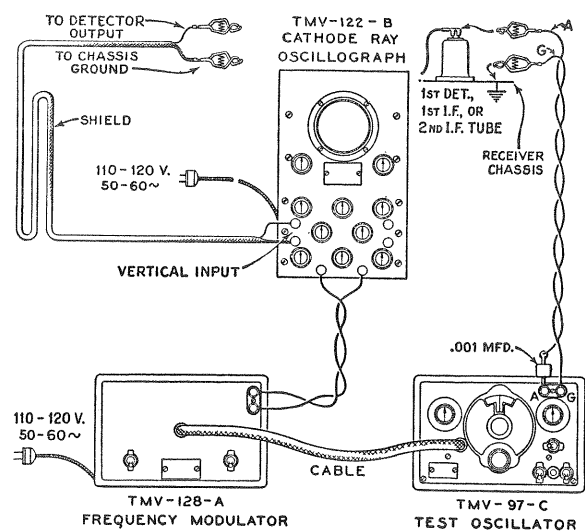

Figure 4—Alignment Apparatus Connections
to feed the output of the Full-Range Oscillator to the stages in their order of alignment, adjusting the trimmers of each transformer and observing the effect at the second detector output on the Cathode-Ray Oscillograph. The proper point of connection of the Oscillograph is with its vertical "high" input terminal attached to the junction of R-7, R8 and R9 as illustrated in Figure 5, and with the "0" or ground terminal to the chassis. The "Ext. Sync." terminals of the Oscillograph should be connected to the Frequency Modulator as shown by Figure 4. A .001 mfd. capacitor installed in series with the Oscillator "Ant." lead will prevent the voltages of the stage under alignment from becoming upset. The vertical "A" amplifier should be "On" for the ensuing adjustments and the gain control kept at its maximum position. For each adjustment, the Oscillator output need be regulated so that the image obtained on the Oscillograph screen will be of sufficient size as to be accurately observable. Proceed further as follows:
- Attach the output of the test Oscillator between the control grid cap of the RCA-6K7 i-f tube and chassis ground as shown typically by Figure 4. Tune the Oscillator to 460 kc. and set its modulation switch to "On". Regulate its output until the signal produces a wave pattern on the Oscillograph screen, adjusting the Oscillograph controls to give the desired number of cycles. Cause the image to stand still on the screen by manipulation of the frequency and synchronizing controls. Then carefully tune the two trimmers C-29 and C-30 of the second i-f transformer to produce maximum amplitude (vertical deflection) of the oscillographic image. Under this condition the transformer will be sharply resonated to 460 kc.
- The Frequency Modulator should then be placed in operation and interconnected with the Full-Range Oscillator by means of the special shielded patch cord. Figure 4 shows the proper arrangement. Set the Frequency Modulator sweep range switch to its "Lo" position and turn the Oscillator modulation switch to "Off". Change the timing control of the Oscillograph to "Ext." and place the range switch to its No. 2 position. Then carefully shift the tuning of the Oscillator so as to increase its frequency, until two distinct and similar waves appear on the Oscillograph
about maximum amplitude of output as shown by the wave on the Oscillograph. It will be necessary to have the timing control of the Oscillograph on "Int." for this operation. After each trimmer has been peaked, the Oscillograph timing control should be set to "Ext." and the Frequency Modulator placed into operation with its connections to the Oscillator and Oscillograph made in accordance with Figure 4. Turn the modulation switch of the Oscillator to "Off" and retune the Oscillator (increase frequency) until the forward and reverse waves show on the Oscillograph and become coincident at their highest points. Adjust the trimmers C-20, C-10 and C-3 again, setting each to the point which produces the best coincidence and maximum amplitude of the wave images.